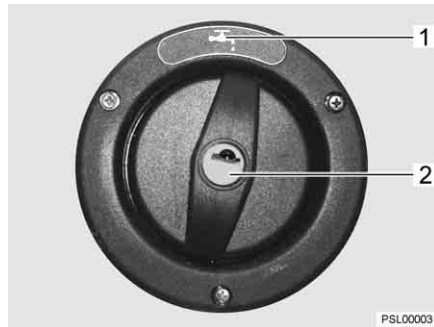

Fig. 49 Cap for the drinking water filler neck
▷ The drinking water filler neck is indicated by the symbol "☞" (Fig. 49,1).
- Insert the key in the locking cylinder (Fig. 49,2) and turn it in an anticlockwise direction.